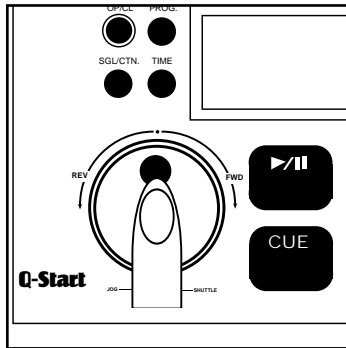
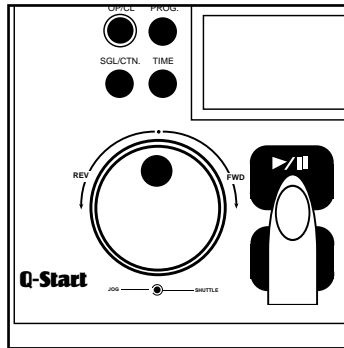
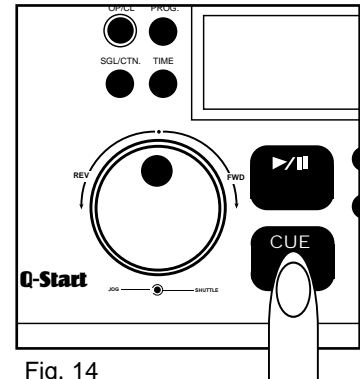

Fig. 12
Fig. 13
Fig. 14
- Esta funcion le permite buscar una posicion precisa de un CUE, SAMPLE, o INICIO DE UNA LOOP. you must first be in Pause Mode. Use the JOG WHEEL (13) (FIG. 12) to find your desired starting point by turning the wheel in either a clockwise or counter-clockwise direction. When you use the jog wheel the monitor function allows you to here what is playing. Once you have set starting point pressing the PLAY BUTTON (25) (FIG.13) locks your cue point into memory. Pressing the CUE BUTTON (15) (FIG.14) will now return you to your set cue point.